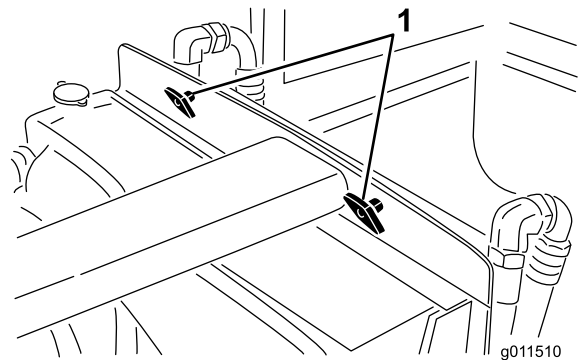

Figure 67
- Remove the knobs (Figure 67) securing the oil cooler to the frame.